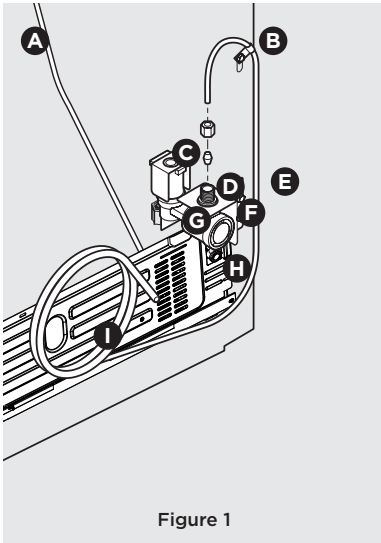

Figure 1
4. **If you use copper tubing** - Slide the brass compression nut, and then the ferrule (sleeve) onto the water supply line. Push the water supply line into the water valve inlet as far as it will go (¼"/6.4 mm). Slide the ferrule (sleeve) into the valve inlet and finger tighten the compression nut onto the valve. Tighten another half turn with a wrench; DO NOT overtighten. See Figure 1.